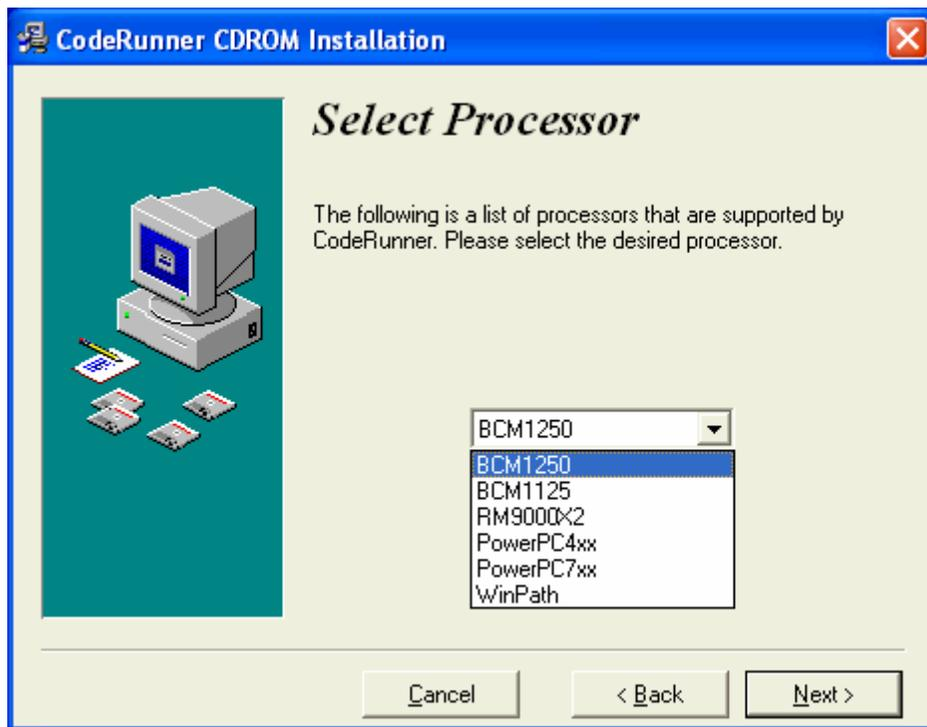

Figure 2-5. Select Processor Screen
Figure 2-5. Select Processor Screen.....	2-6
7. The **Select Processor** screen shown in Figure 2-5 will appear. Select the target processor and click on the **Next** button to proceed to the controller selection screen.